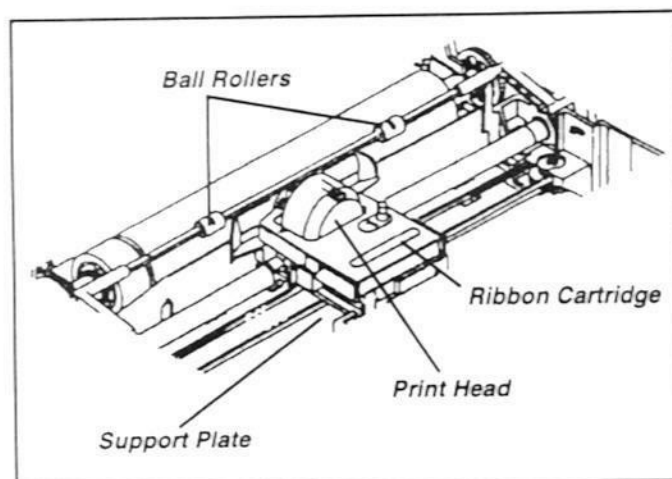

Figure 6-7
3. Push the print head to the center of the carriage so it is away from the bail rollers. Make sure the bail is closed (lever back - see Figure 6-7).